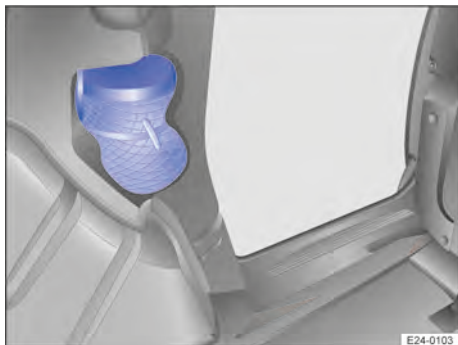

Fig. 159 In the side panel: load restraint net stowed.
2. Open the toggle fastener and unfold the load restraint net → Fig. 159.
4. Secure the load restraint net at the side panel with the toggle fasteners → Fig. 159.